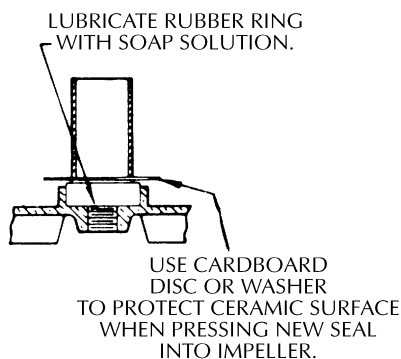

Figure 5
4. Lubricate the rubber ring in the impeller with a soap solution. Press seat into impeller cavity (Figure 5). If a tool or pipe is necessary to press ceramic seat correctly, use a cardboard disc or washer to protect the highly polished ceramic surface of the new seal.